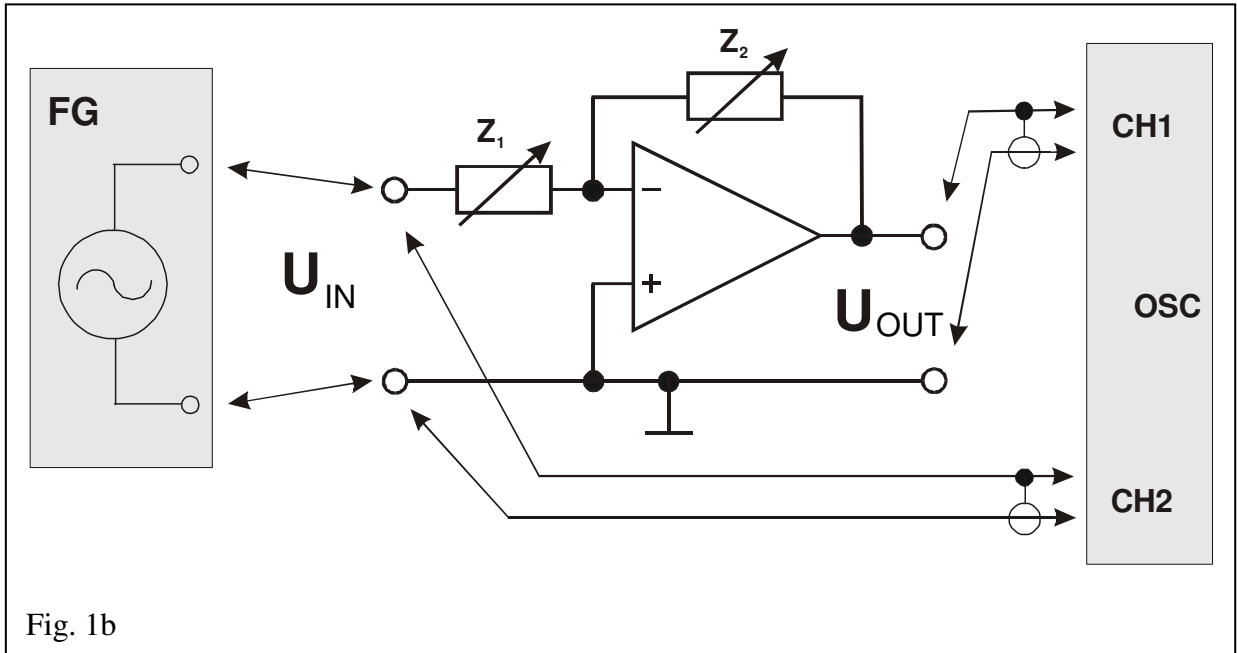

Fig. 1b
2. Connect the circuit according to the diagram given in Fig. 1b.
3. Select the sine waveform (without the DC OFFSET) by using the Function Select Switch on the Function Generator (FG) front panel and connect the output of FG to the both CH2 input of oscilloscope and input of amplifier (use T junction to divide the signal from the output of FG) (Fig. 1b and 1c).
4. Connect the output of amplifier to CH1 input of oscilloscope (Fig. 1b and 1c).